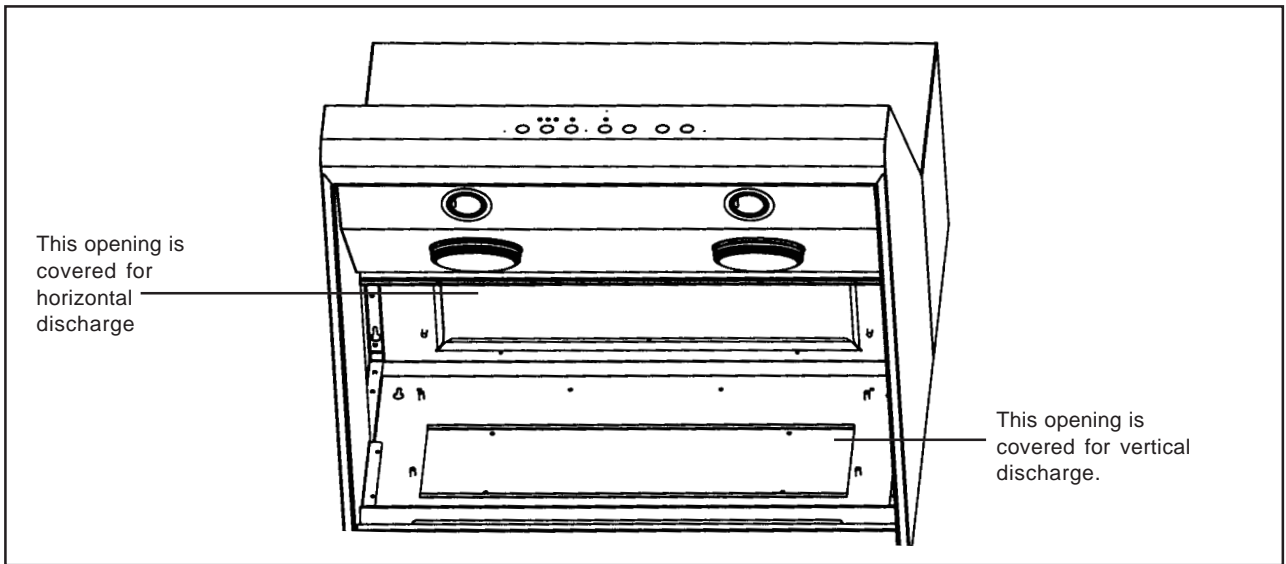
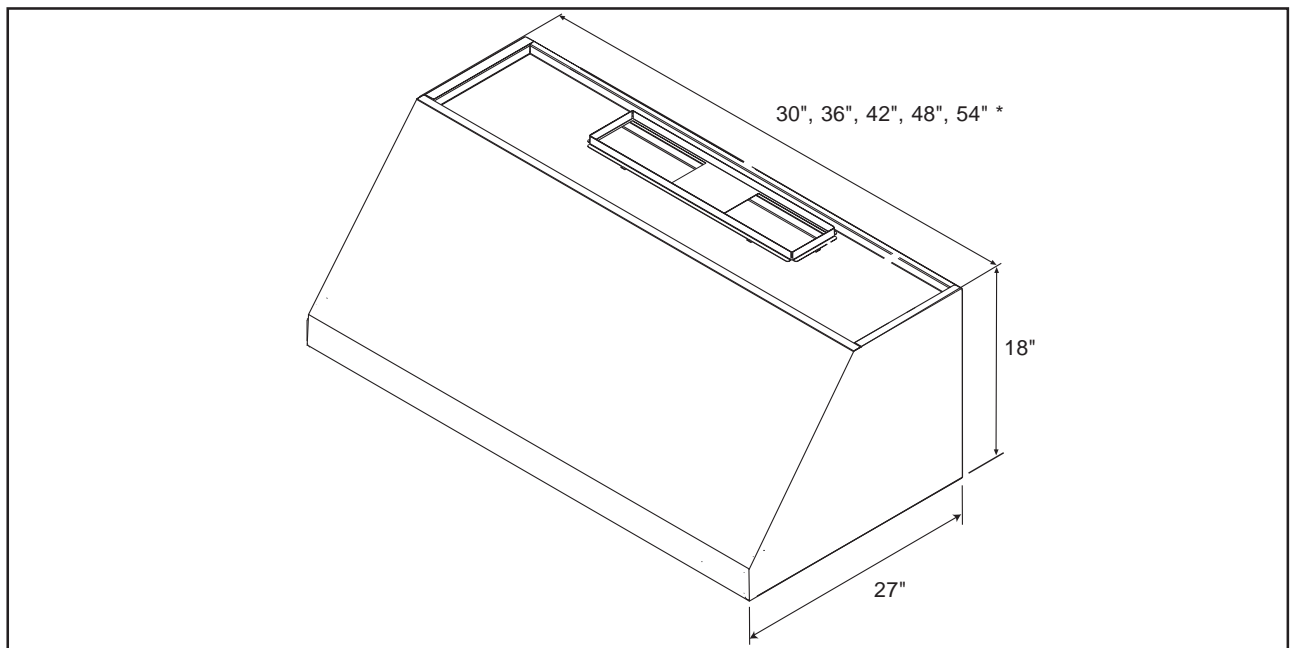

Figure 1a: Discharge Direction
Figure 1b: Overall Dimensions
**Discharge Direction:** The hood is shipped ready for vertical discharge. To change to horizontal discharge move the discharge cover shown in Figure 1a to the top of the hood. The plate is held in place by 4 (four) screws.
2. Fasten transition to hood using two (2) # 8 sheetmetal screws (included with hood).
**See Figure 1b for overall hood dimensions.**